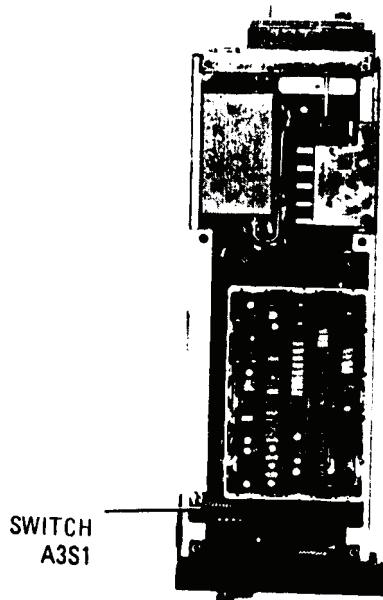

Figure 9. Switch A3S1 location.
(2) Set switch **A3S1** (fig. 9) position 1 to the **OPEN (UP)** position.